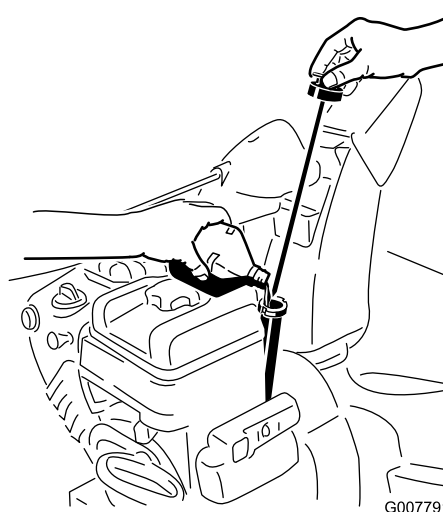

Figure 18
1. Remove the dipstick and **slowly** pour oil into the oil fill tube to raise the oil level to the Full mark on the dipstick. **Do not overfill.**(Figure 18).